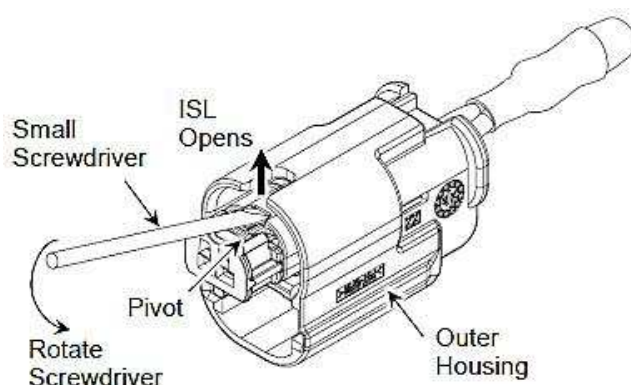

Figure 8
- a. Insert the tip of a small screwdriver into the opening of the ISL and lift the ISL until it free from the inside of the housing. See Figure 8